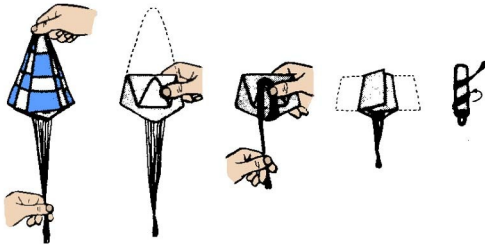

Figure 9
- **Step 19** Use the illustration in Figure 9 to correctly fold and prepare the parachute for flight. Do not wrap the lines too tightly around the parachute, as it may prevent the parachute from opening properly at deployment. Attach the snap links of both the shock chord and the parachute to the screw eye in the nose cone.